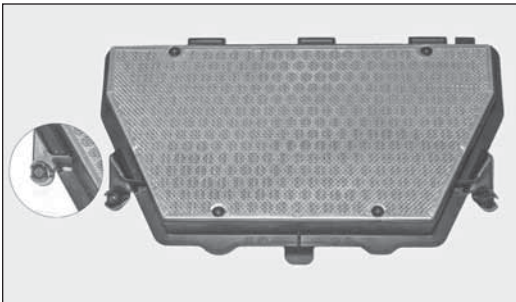

Fig 1.
2. Remove the two air filter screws from stock filter. (Fig.1)